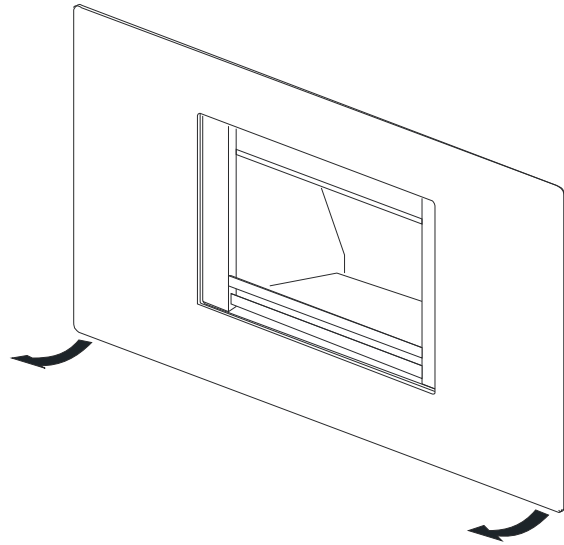

Figure 1
1. To gain access to the controls pull at the bottom left hand or right hand corner of the glass fascia (see **Figure 1**). The bottom of the fascia will swing out and stay open. The controls should be accessed from under the glass fascia.